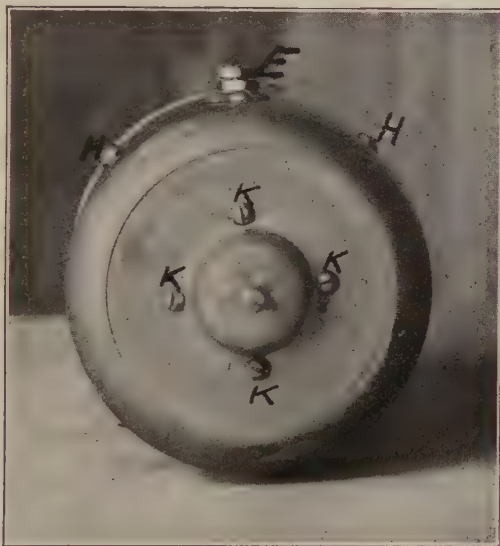

FIGURE 8.
A is the "3d" brush holder. B is the ungrounded main brush holder. C is the grounded main brush holder. D is fiber insulating the third brush and ungrounded main brush from the brush ring, E. F is narrow ring which clamps brush ring in place by means of four screws, as shown, whose heads are shown at K in Figure 8.
round head screws are turned. These screws are inserted through holes in the end cap of the generator, as shown at K in Figure 8. These screws pass through the slots cut in the inner circumference of the brush ring, and when they are turned in, clamp the small ring against the brush ring, which is in this manner held in place
rigidly. If the four screws shown at K in Figure 8 are loosened, the entire brush ring may be rotated as far as the length of the slots in the brush ring will permit.
A is slot in which the bolt C that holds third brush holder in place may be moved, thus changing position, or "setting" of the third brush. B are notches cut in inner circumference of brush ring, through which the screws whose heads are shown at K, in Figure 8 pass. D is the narrow ring which clamps brush ring in place. D is also shown at F in Figure 5.
6. To remove the brush ring, take out the four screws shown at K in Figure 8. The main brush holders are riveted to the ring and cannot be removed from the ring.